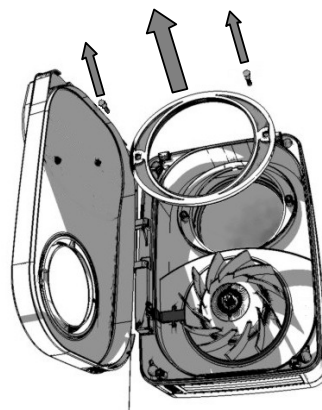

Figure 25.
3. Remove Retaining Plate, Carefully slide out the Heat Exchanger - Figure 25 & 26 and wash in warm water using a mild detergent, dry thoroughly and reassemble in reverse order to above.